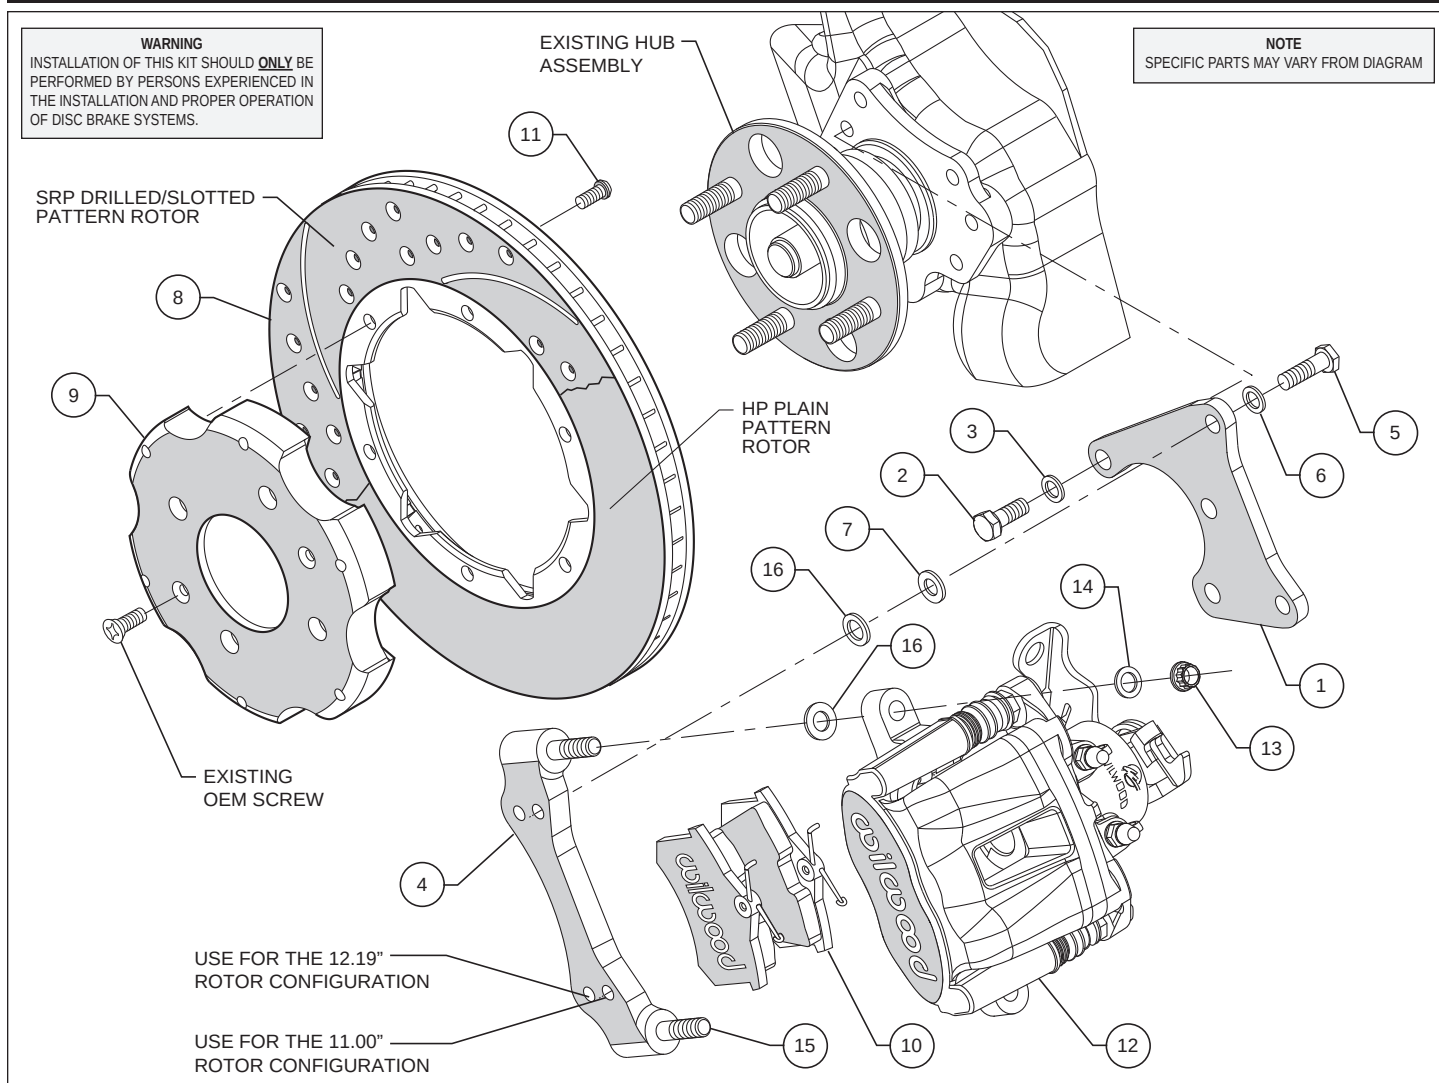

Figure 1. Typical Installation Configuration
- The axle bracket (1) and the radial mount caliper bracket (4) should be installed first with clean, dry threads on the mounting bolts. Install the axle bracket (1) on the outboard side of the hub assembly by sliding bolt (2) through washer (3) through the axle bracket mounting holes and thread into the hub assembly. Next install the radial mount bracket (4) on the outboard side of the axle bracket (1) by sliding bolt (5) through washer (6), through the axle bracket mounting holes and thread into upper holes in caliper bracket (4) (see figure 1). Place two shim washers (16) between the axle bracket (1) and the caliper mounting bracket (4). The axle bracket (1) must tighten squarely against the hub assembly and the caliper mounting bracket (4) must tighten squarely against the outboard side of the axle bracket (1). Inspect for interference from casting irregularities, machining ridges, burrs, etc. Use two shims (16) between the axle mounting bracket (1) and the caliper mounting bracket (4).
- With the larger I.D. side of the rotor (8) facing away from the hat (9), attach rotor (8) to hat (9) using bolts (11) as shown in Figure 1. Using an alternating sequence, remove bolts one at a time, apply red *Loctite*® 271 to the threads, and torque to 25 ft-lbs.
- Slide the brake pads (10) up into the caliper (12) from the bottom until the "v" spring clip snaps into place against the anvil. They should install easily without interference.
- Lubricate caliper mounting studs and nuts with lightweight oil. Install two shims (16) over each stud (15) on the radial mount bracket (4). Slide the caliper (12) in place over the studs and rotor and install the washer (14) and lock nut (13) to hold the caliper in place. The caliper bleed screw should be pointing toward the rear of the vehicle. Snug the lock nuts (13) and check that the caliper (12) is centered over the rotor (8). Add or subtract .016" shims (7) and/or .035" shims (16) as necessary between the caliper mounting bracket (4) and the axle bracket (1) to center the caliper (12) on the rotor (8).
- Check that the outside radius of the brake pad (10) is aligned with the outside diameter radius of the rotor face. Add or subtract shims (16) between the caliper (12) and caliper mounting bracket (4) to gain the proper alignment.
- Once all clearances have been checked, remove the wheel, caliper and rotor from the axle flange. Secure the caliper mounting bracket (4) to the axle bracket (1) while applying red *Loctite*® 271 on the bolt threads (5). Torque the bolts (5) to 35 ft-lbs. Then secure the axle bracket assembly (1 and 4) to the hub using red *Loctite*® 271 on the bolt threads (2). Torque the bolts (2) to 40 ft-lbs. Reinstall the rotor and again use several lug nuts to hold it in place being sure to align the small countersunk holes in the hat (9) with the corresponding holes in the hub. Reinstall the caliper, torque the caliper nuts (13) to 30 ft-lbs.